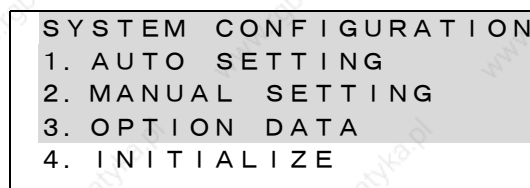

Fig. 20.5 System Configuration
- (1) With the System Configuration screen displayed as in Fig.20.5, press the  key 「2. MANUAL SETTING」. The screen display changes as shown below.